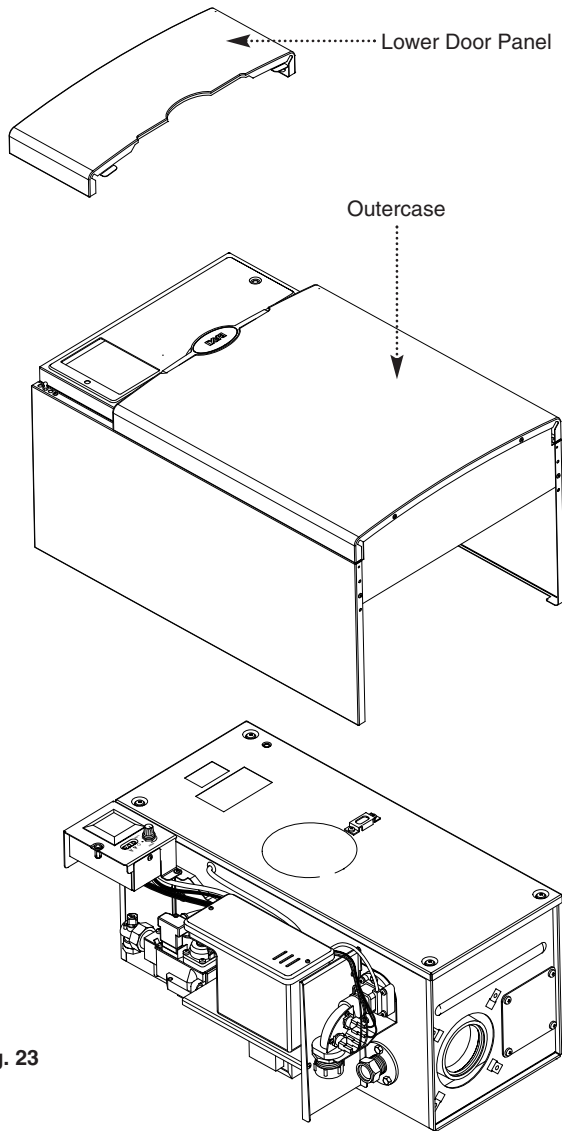

Fig. 23
3. Lift the outercase upwards and remove (Fig. 23).